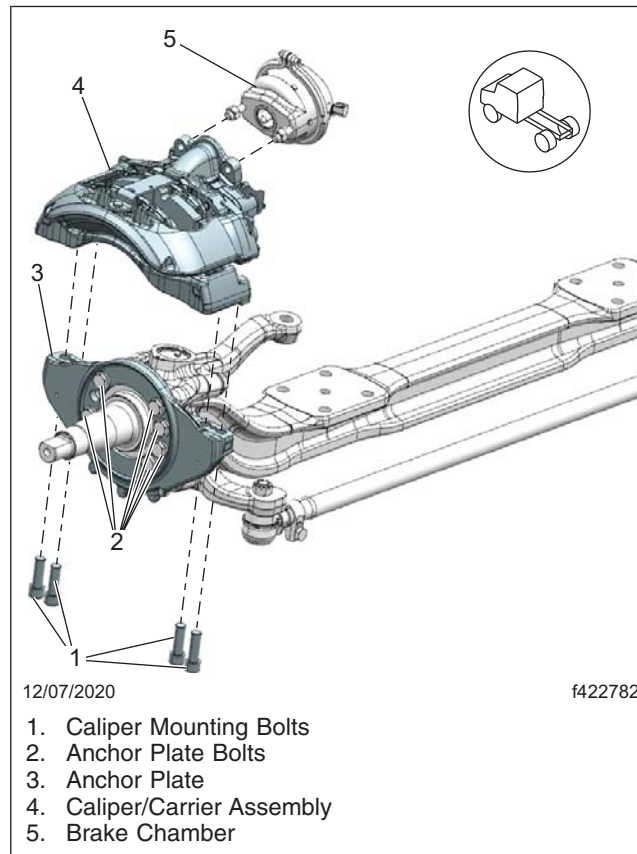
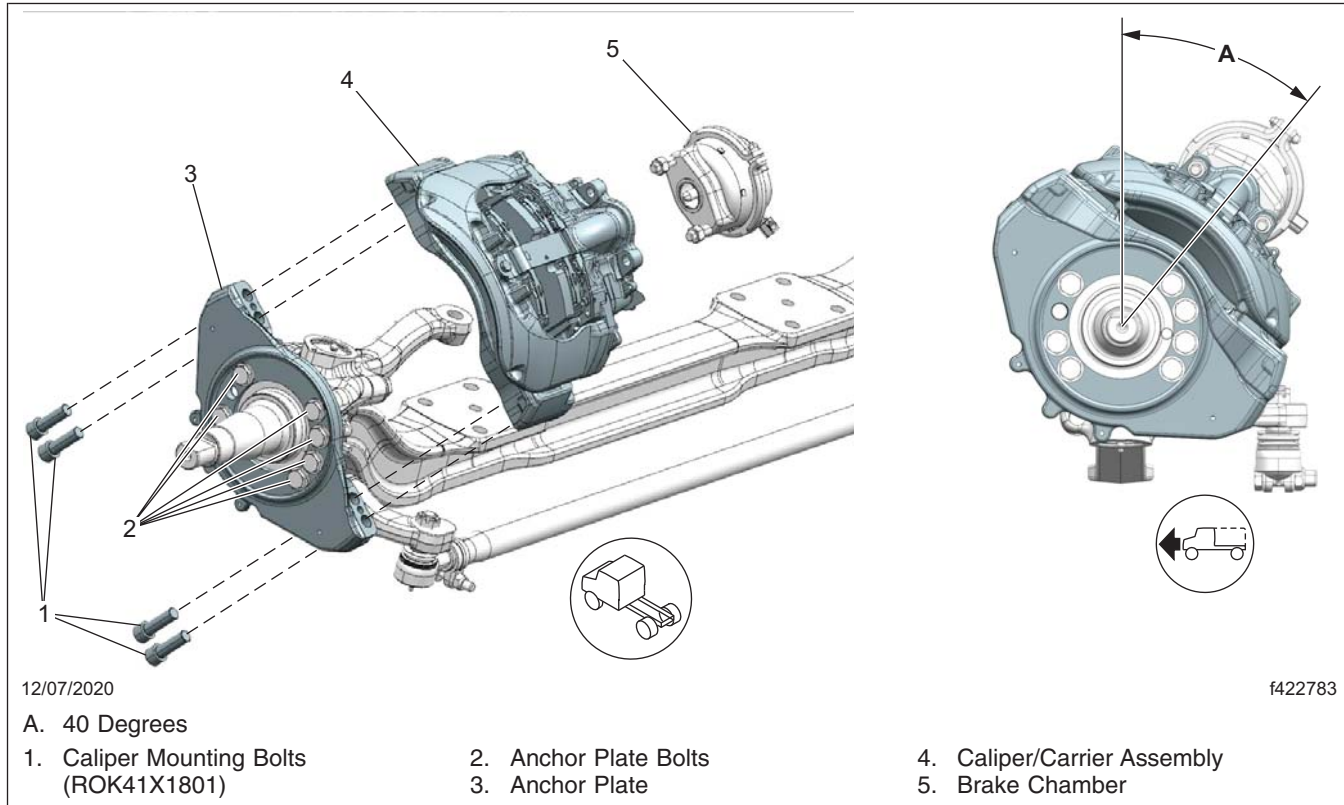

Fig. 1, Brake Calipers Mounted on Old Anchor Plates
Fig. 2, Brake Calipers Mounted on New Anchor Plates
This procedure is applicable to the front steer axle only. Refer to Fig. 1 and Fig. 2.
17. Align each caliper/carrier assembly with the rotor by pushing the fixed pin side of the caliper against the shelf on the torque plate, then install the caliper/carrier assembly using new caliper mounting bolts as follows. See **Fig. 2**.